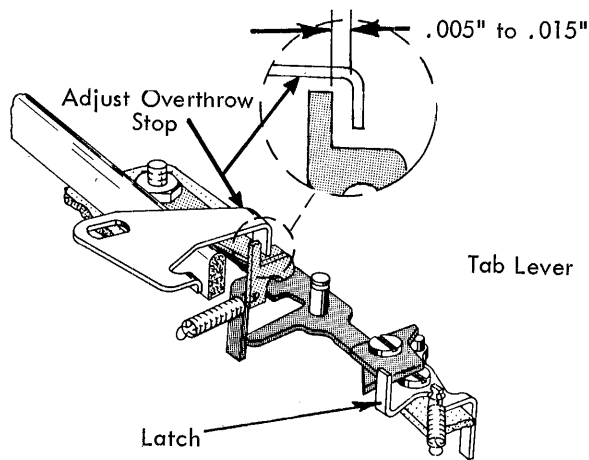

FIGURE 242.6 Tab Lever Overthrow Stop (Early)
10. Tab Lever Overthrow Stop (Fig. 242.6) - Adjust forward or back so that .005" to .015" clearance exists between the lug of the tab lever and the overthrow stop when the tab lever is latched to the rear.